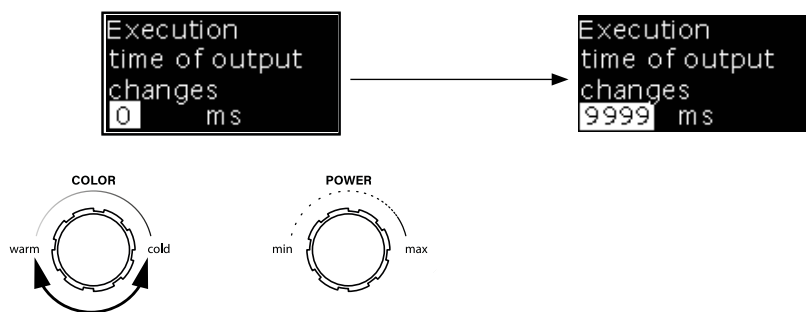

Fig. 47
2. When **dt_out_stp** is set to 0 ms, the transitions between the different controller parameter states are instant and you can visually see a step change in brightness and temperature at low power values. Rotation of the left encoder knob changes the parameter which represents the time of smooth transition between states in milliseconds. It is possible to set the transition time from 1 ms to 9999 ms (Fig.47).